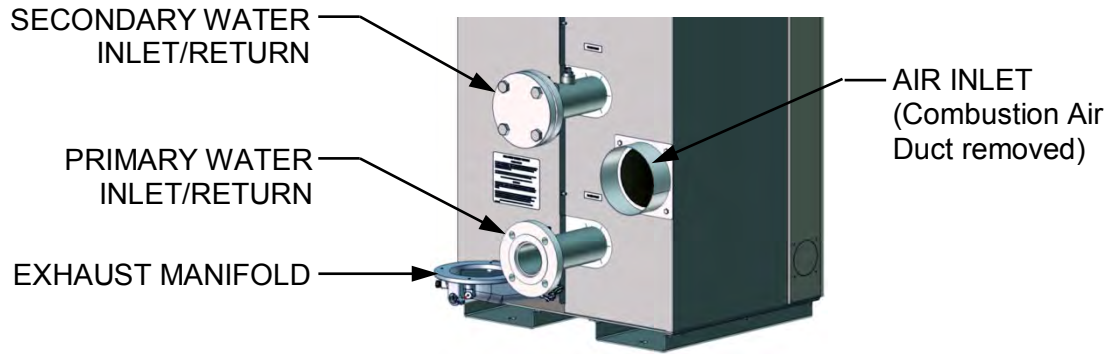

Figure 6-5: Boiler Rear View Showing Air Inlet Location
2. For units that get combustion air from a Combustion Air Duct, remove that duct, located on the rear panel of the boiler (see Figure 6-5, below). For units that have an air filter in place of a Combustion Air Duct (not shown), remove the air filter.